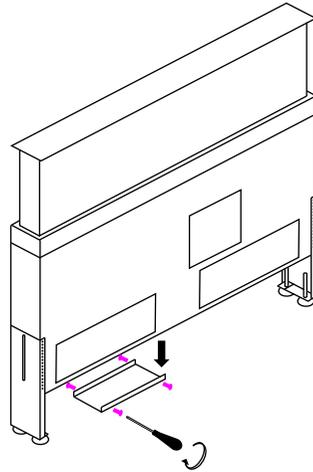

Fig 11
1. When using the AMF motor remove the bottom closure plug (Fig 11).